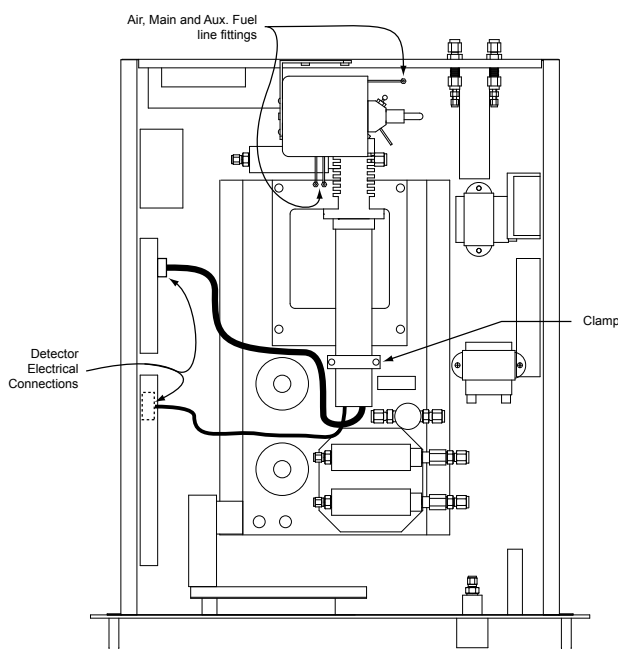

Figure 7.5
Figure 7-5 shows detector electrical connection location.
- 7.3.3 Referring to Figure 7-5, carefully disconnect the COAXIAL SIGNAL CONNECTOR from the box by twisting the coaxial connector 1/4 turn CCW. Disconnect the molex connector leading to the other wires on the end of the photo multiplier tube (PMT).